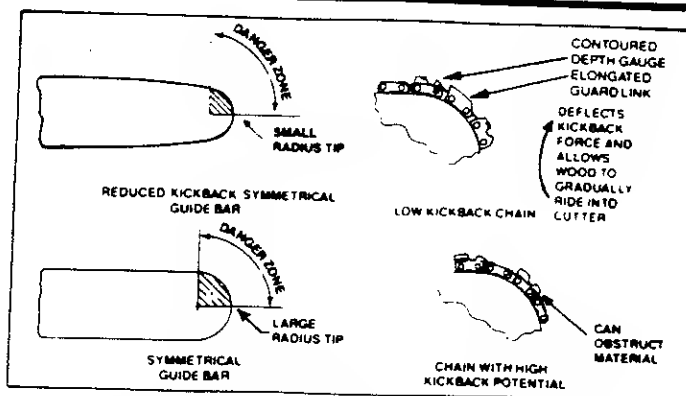

Figure 5
- **Reduced-Kickback Guide Bar**, designed with a small radius tip which reduces the size of the kickback danger zone on the bar tip. Figure 5. A Reduced Kickback Guide Bar is one which has been demonstrated to significantly reduce the number and seriousness of kickbacks when tested in accordance with the safety requirements for gasoline powered chain saws as set by the American National Standards Institute, Inc., Standard B175.1 - 1985.
- **Low-Kickback Chain**, designed with a contoured depth gauge and guard link which deflect the kickback force and allow wood to gradually ride into the cutter. Figure 5. Low Kickback Saw Chain is chain which has met the kickback performance requirements of ANSI B175.1 (Safety Requirements for Gasoline-Powered Chain Saws) when tested on a representative sample of chain saws below 3.8 cubic inch displacement specified in ANSI B175.1. (American National Standards Institute, Inc., Standard B175.1 - 1985).